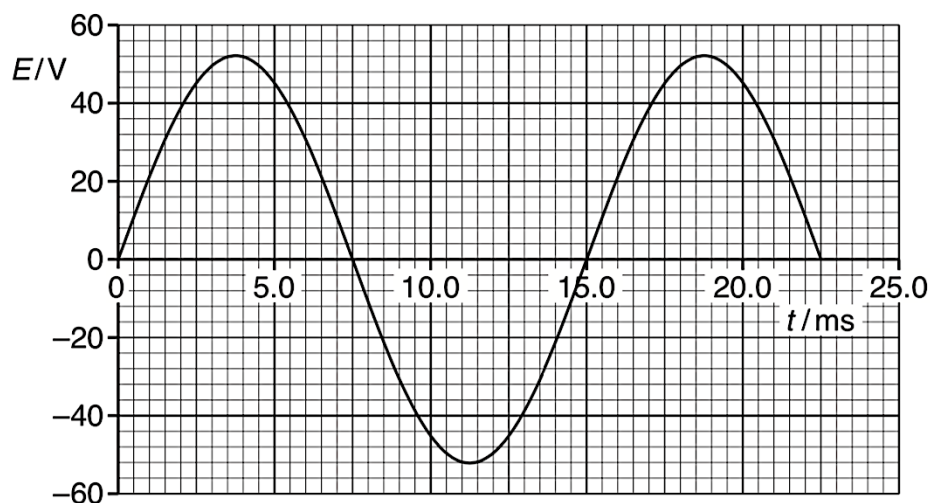

Fig. 7.3
- (c) The battery in (b) is now replaced by an alternating voltage of r.m.s. value 90 V. The variation with time t of the e.m.f. E induced across the secondary coil is shown in Fig. 7.3.
Use data from Fig. 7.3 to